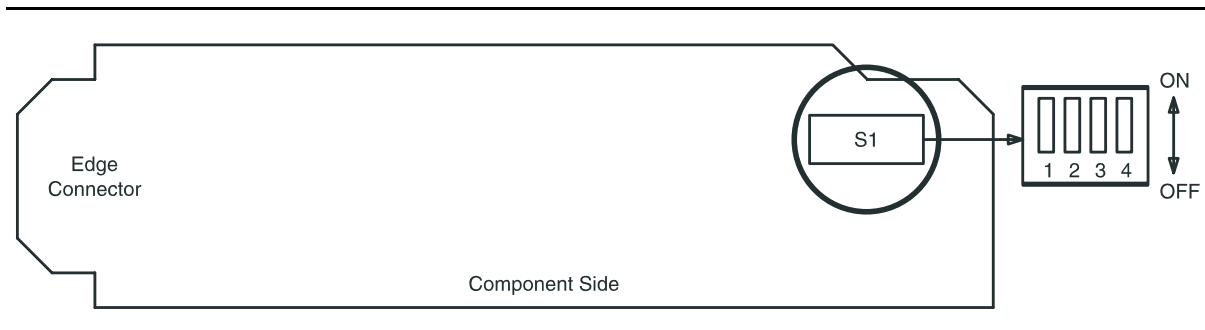

Figure 8 – BBF8 HDSL Control Switch
29. Set **HDSL** option switches per Table M and Figure 8.